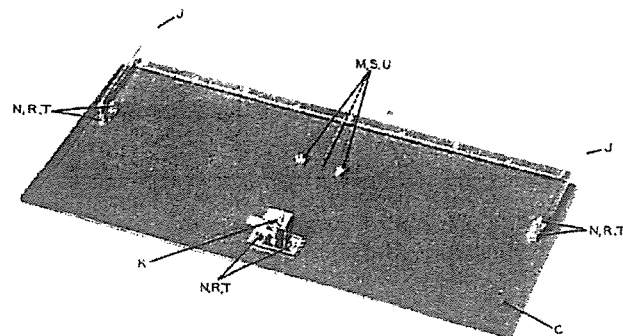

Figure 2-1. 499G-1 Rack Mounting Shelf, Front Panel Assembly
##### 2.2.3.2 FRONT DOOR ASSEMBLY. (See figure 2-1.)
c. See figure 2-1. Attach the two lid supports, item J, to the rear of the door with the slotted arm adjacent to the edge of the door. Use two each of items N, R, and T on each support.